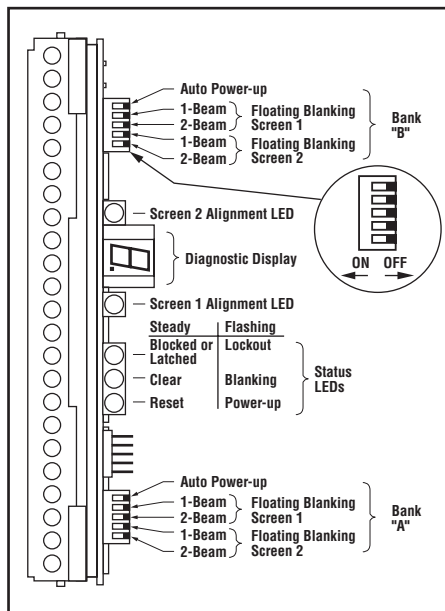

Figure 18. Controller configuration switches
The Dual MINI-SCREEN control module should be configured before initial checkout and use. Control module configuration is done at the two banks of DIP switches located along the edge of the controller board (see Figure 18).
Locate the floating blanking (FB) configuration switches in bank A and B (see Figure 18). Set the switches identically at banks A and B. Be aware of the difference in minimum object sensitivity, penetration factor, and required light screen separation distance between the settings (refer to Sections 2.1 and 3.2.1). Floating blanking causes the Dual MINI-SCREEN System to ignore multiple objects of up to the size listed in the table, below.
Locate the Auto Power-up (AP) configuration switch (see Figure 18) in banks A and B. If Auto Power-up is ON (switches pushed to the left) when power is applied to the Dual MINI-SCREEN System, the controller will automatically reset after conducting and passing an internal system checkout. If the switches are OFF (pushed to the right), this initial reset is manual (via the key reset switch). Regardless of the setting of this switch, a key reset is always necessary to recover from an internal lockout condition. To select Auto Power-up, remove the protective coating on both switches and push them to the ON position. The switches must be set identically at banks A and B.